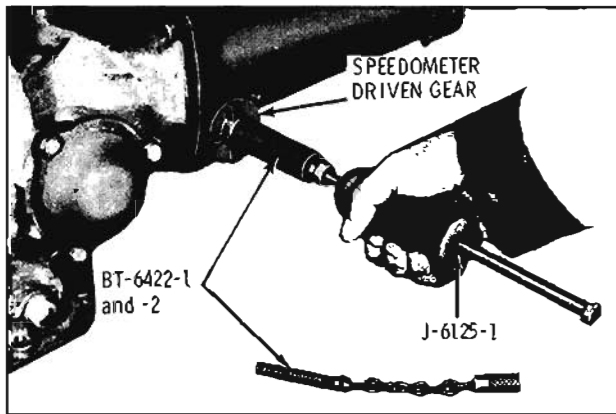

Fig. 6-278 Removing Speedometer Driven Gear
2. Remove speedometer driven gear sleeve. If speedometer driven gear sleeve cannot be removed by hand, available Tool BT-6422 may be used as shown in Fig. 6-278.